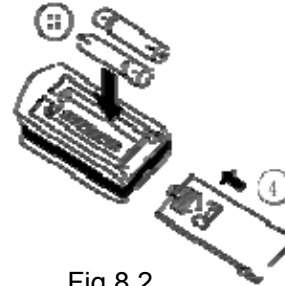

Fig 8.2
2、 Take out the old batteries ,insert two AAA alkaline cells(As show in Fig 8.2.)